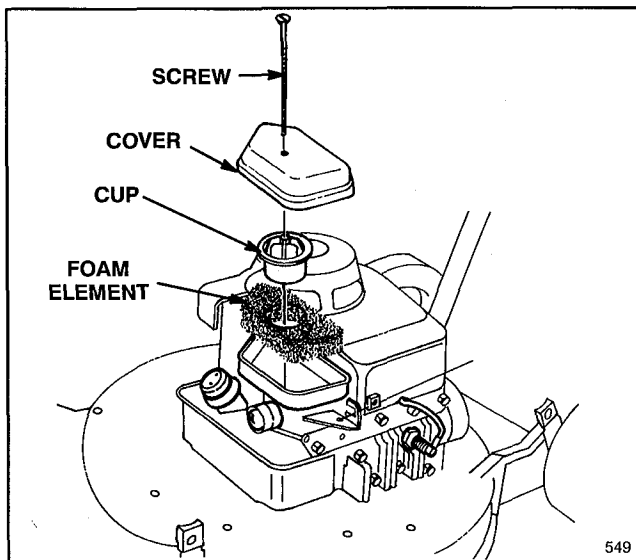

Figure 10
2. Remove screw from top of air cleaner. Lift off cover and clean cover thoroughly (Fig. 10).
3. Remove air cleaner cup from top of foam element (Fig. 10).
4. If foam element is dirty, remove it from air cleaner body (Fig. 10). Clean thoroughly.